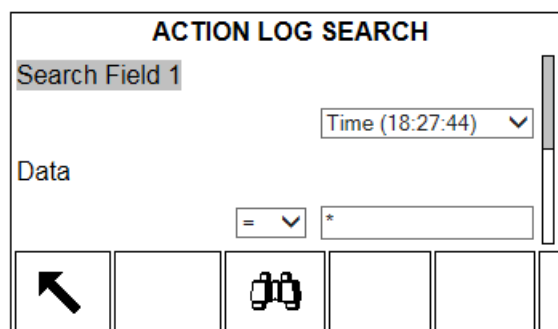

Figure A-1: Action Log Search Screen
3. Press the VIEW TABLE softkey  shown at the bottom of the screen. The Search Screen displays (Figure A-1).